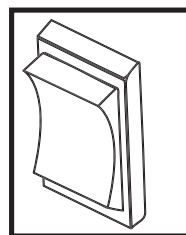

Figure 15. Power Seat Switch (With No Markings)-Activates The Power Seat Actuator
1. To raise the power seat, press and hold the upper part of the switch. Release the switch when you have attained your desired height or until reaching the highest position. See figure 15.